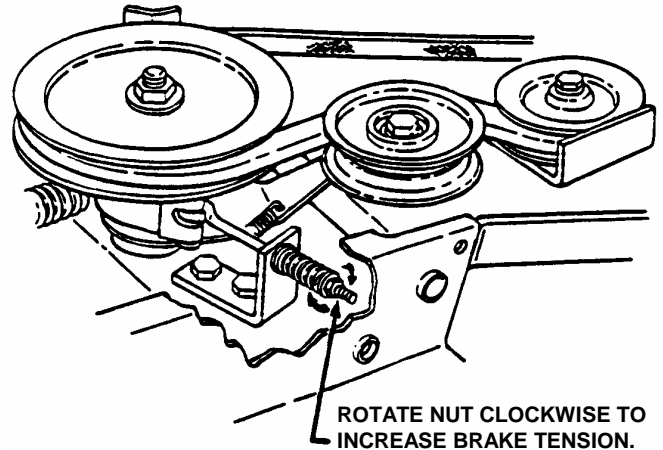

FIGURE 4.1
3. If dimension is greater than 1/4", rotate nut clockwise to increase brake tension. If dimension is less than 1/8", rotate nut counter-clockwise to decrease brake tension. See Figure 4.1.